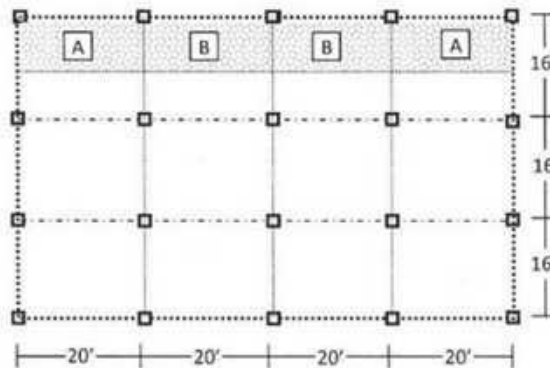

Fig 1
- A building is to be designed as a flat plate structure. A plan of the building is shown in Fig 1. The columns are 20"X 20" in size. Use WSD to calculate the column strip and middle strip moments of Panel A and Panel B [Given, FF = 25 psf, RW = 30 psf, LL = 50 psf,  $f'_c = 4$  ksi, and  $f_y = 60$  ksi].